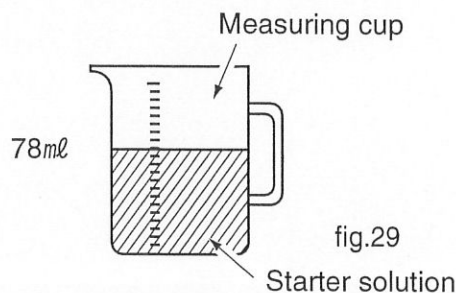

fig.29
- ⑥ Measure out 78mℓ of the starter solution. (fig.29)